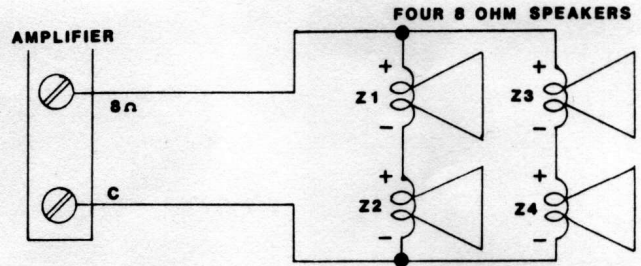

FIGURE 4 MATCHING FOUR SPEAKERS IN SERIES / PARALLEL
A. Combine the two foregoing formulas as indicated in figure 4. Apply the series formula for Z1 and Z2, then for Z3 and Z4. Take the results of this and apply the parallel formula to obtain the final matching impedance. (See figure 4)